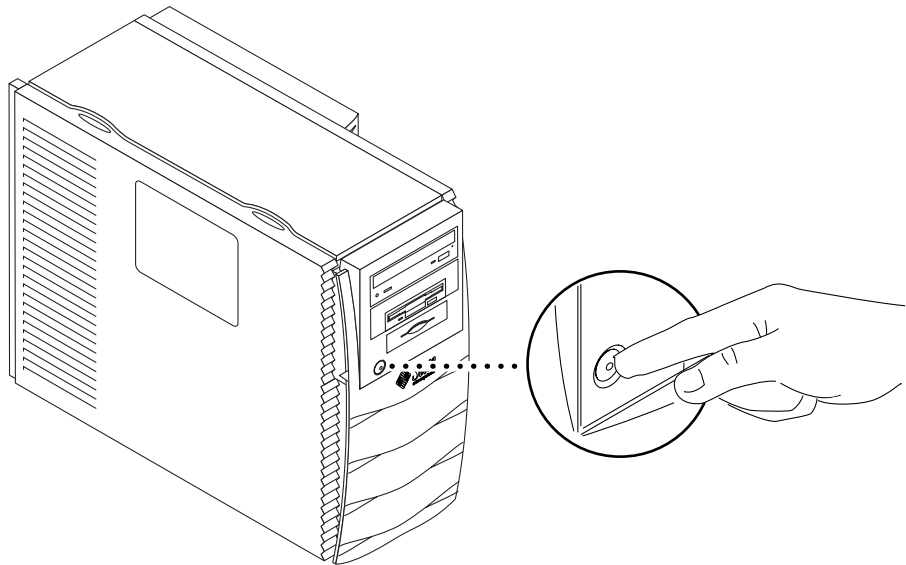

FIGURE 1 System Power Switch
- i. **Press and release the front panel Power switch (see FIGURE 1) to automatically shut down all programs, the operating system, and to power off the system.**
- i. **Press the front panel Power switch (see FIGURE 1) to power off the system.**
- c. If the system is at the “ok” prompt (OpenBoot interface) press and hold the front panel Power switch for four seconds (see FIGURE 1) to power off the system.